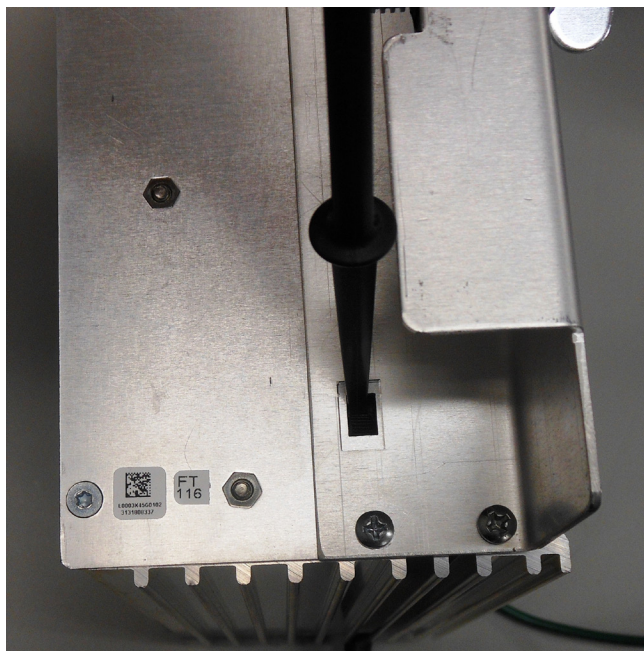

Figure 12. Neutral light source switch on CL-7 control.
- 18. Important Step!** When installing the a CL-7 regulator on McGraw-Edison voltage regulator manufactured in 1988 and earlier, it will be necessary to flip a switch on the side of the control (see Figure 12). The switch must be in the down position for the older regulators; the neutral light will stay on all the time if it is not.